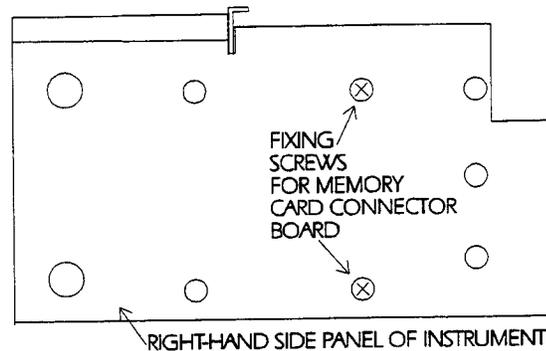
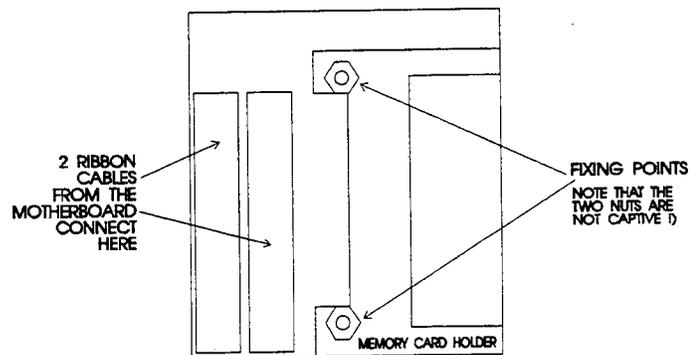

Figure 5-20. Memory Card Connector board Chassis Fixing Screws
Figure 5-21. Memory Card Connector board Fixings
3. Remove the 2 screws securing the Memory Card Connector board to the chassis (see Figure 5-20 and Figure 5-21 for their position)